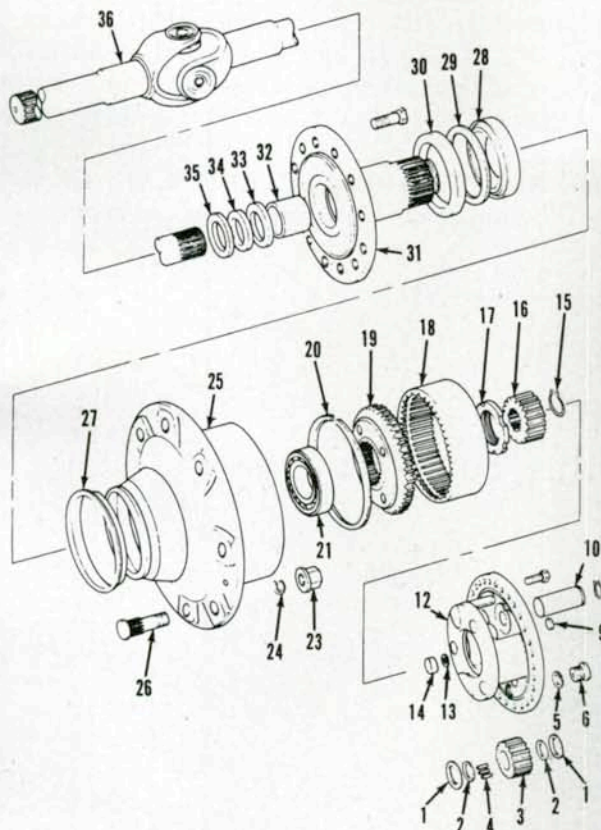
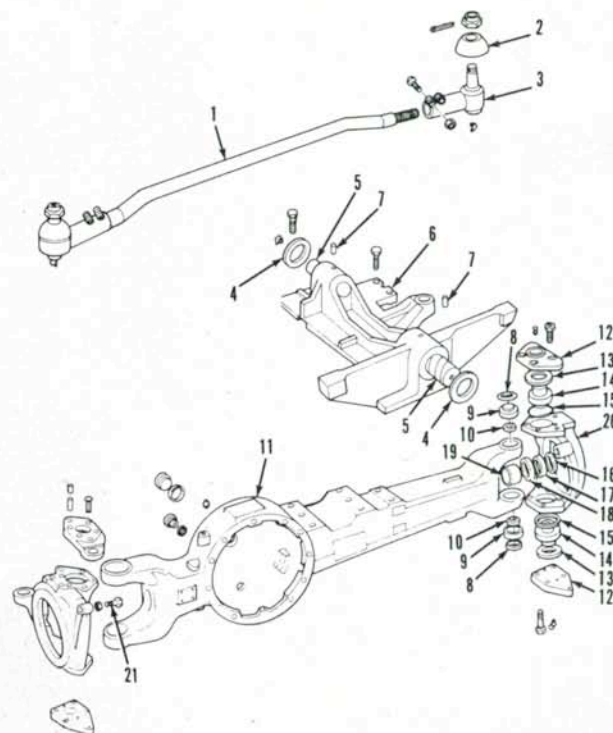

Fig. 22—Exploded view of hub and planetary final drive used in APL-3054 type front drive axle used on early TW-35 models.
Fig. 25—Exploded view of front axle housing and steering knuckle used on APL-3054 type axle.
**15. R&R WHEEL HUB AND PLANETARY CARRIER.** To remove wheel hub (25—Fig. 22) and planetary assembly, raise front of tractor and remove wheel and tire. Remove drain plug (6) and drain oil from hub. Scribe alignment marks on planetary car-
**16. OVERHAUL.** With planetary carrier assembly removed as outlined in paragraph 15, remove pins (10—Fig. 22) and planet gears (3) with bearings from planetary carrier (12). Unscrew slotted nut (17) and remove ring gear (18) and carrier (19) from wheel hub (25). Pull hub and bearings off hub carrier (31). Remove oil seal (30), spacer (29) and bearing (28) from wheel hub. Remove bolts retaining hub carrier to steering knuckle and remove carrier. Axle shaft (36) can now be removed from housing.
**17. ADJUSTMENT.** Wheel hub bearing preload is adjusted by turning slotted nut (17—Fig. 22). Wrap a cord around wheel hub and use a scale as shown in Fig. 23 to measure pull required to rotate wheel hub. Tighten nut until pulling resistance is between 9-14 pounds (4-6 Kg) if new bearings were installed, or 4.5-7 pounds (2-3 Kg) if original bearings are used. Install lockplate and second slotted nut to serve as a locknut. Bend tabs of plate to engage both nuts.
To adjust axle shaft end play, remove dust plug (9—Fig. 22) from center of planetary carrier. Drive thrust plug (14) and shims (13) out of carrier, then reinstall thrust plug (without shims) and bottom the plug in bore of carrier. Push axle shaft fully inward into axle housing. Install planetary carrier onto hub and retain with two cap screws. Use a depth micrometer to measure distance from outer surface of planetary carrier to the plug (Fig. 24). Using a brass drift, drive the thrust plug against end of axle shaft. Measure the distance again from carrier surface to plug. The difference between the two measurements is the thickness of shims (13—Fig. 22) required to provide zero end play of axle shaft.
**18. R&R AXLE SHAFTS.** To remove axle shafts (36—Fig. 22), refer to paragraph 15 and remove planetary carrier, wheel hub and hub carrier. Axle shaft can now be removed from axle housing.
Inspect bushings (32—Fig. 22 and 19—Fig. 25) and seals (33—Fig. 22 and 18—Fig. 25) and renew if necessary.
**19. STEERING KNUCKLE AND KINGPINS.** Refer to Fig. 25 for an exploded view of steering knuckle assembly. The knuckle (20) can be removed from axle housing without disassembly of final drive components. Support planetary unit and knuckle, then remove upper and lower kingpin caps (12) and tie rod
Inspect all parts and renew if necessary. If renewal of steering knuckle is necessary, remove cap screws attaching hub carrier (31—Fig. 22) to knuckle and remove knuckle.
without removing front axle assembly from the tractor if desired. Raise and support front of tractor. Drain oil from axle housing. Disconnect drive shaft from pinion drive flange. Remove cap screws securing hub carriers (31—Fig. 22) to steering knuckles and remove planetary and hub assemblies. Withdraw axle shafts to disengage inner ends from differential side gears.